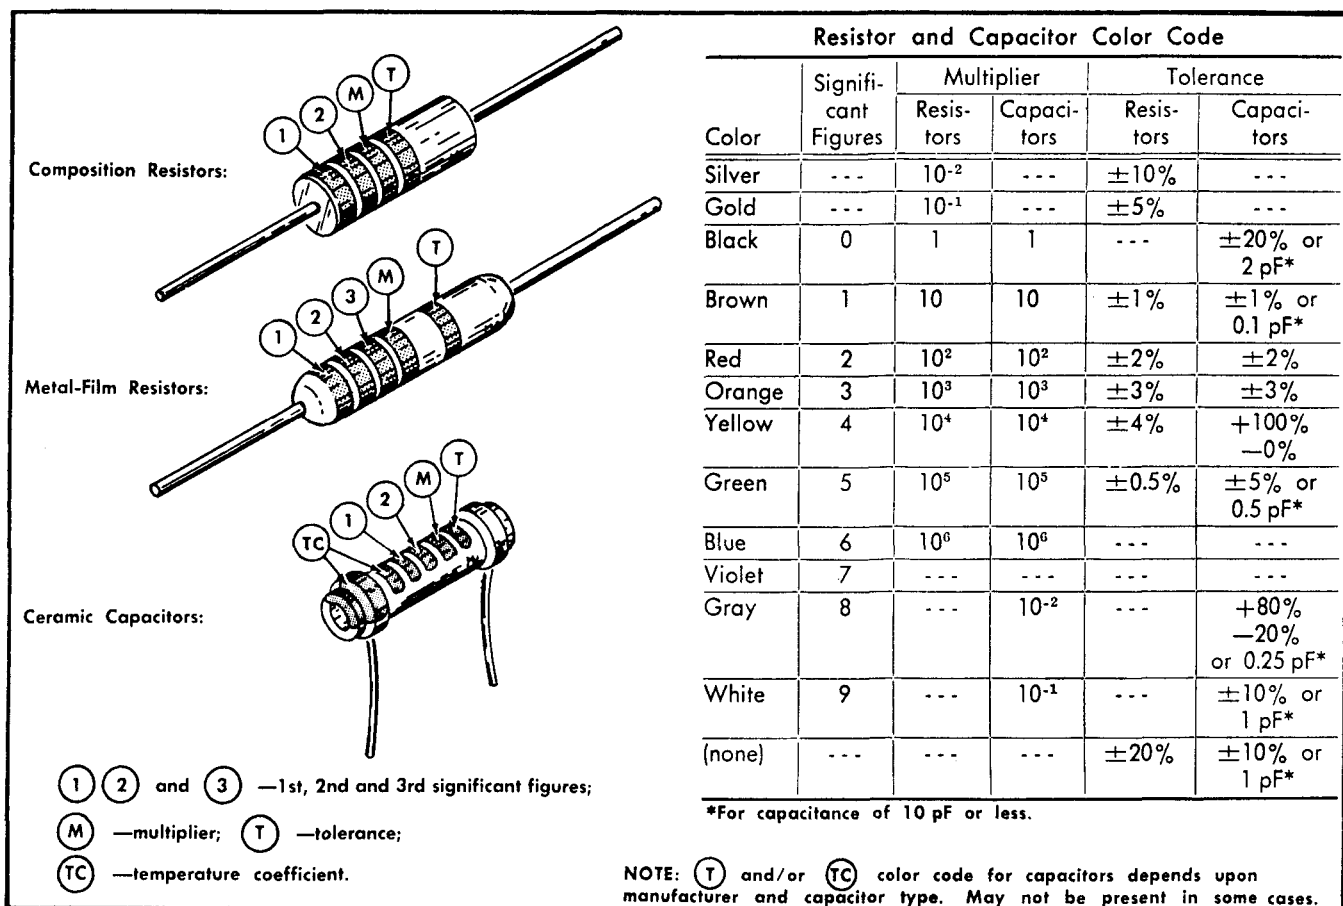

Fig. 4-2. Color-code resistors and ceramic capacitors.
**Resistor Color-Code.** In addition to the brown composition resistors, metal-film resistors and some wire-wound resistors are used in the 434. The resistance of a wire-wound resistor is printed on the body of the component. The resistance values of composition resistors and metal-film resistors are color-coded on the components with EIA color-code (some metal-film resistors may have the value printed on the body). The color-code is read starting with the stripe nearest the end of the resistor. Composition resistors have four stripes which consist of two significant figures, a multiplier and a tolerance value (see Fig. 4-2). Metal-film resistors have five stripes consisting of three significant figures, a multiplier and a tolerance value.
**Capacitor Marking.** The capacitance values of common disc capacitors and small electrolytics are marked in microfarads on the side of the component body. The white ceramic capacitors used in the 434 are color coded in picofarads using a modified EIA code (see Fig. 4-2).